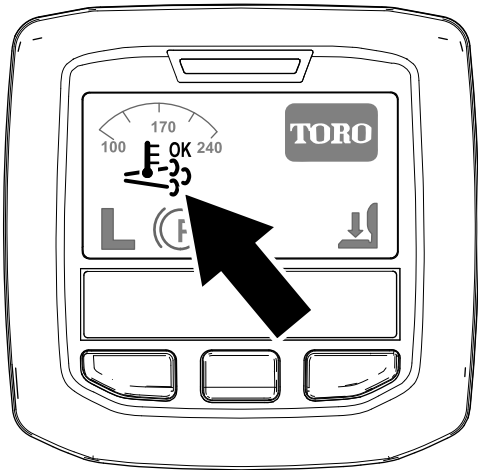

Figure 28
- The assist/reset-regeneration icon displays in the InfoCenter (Figure 28).